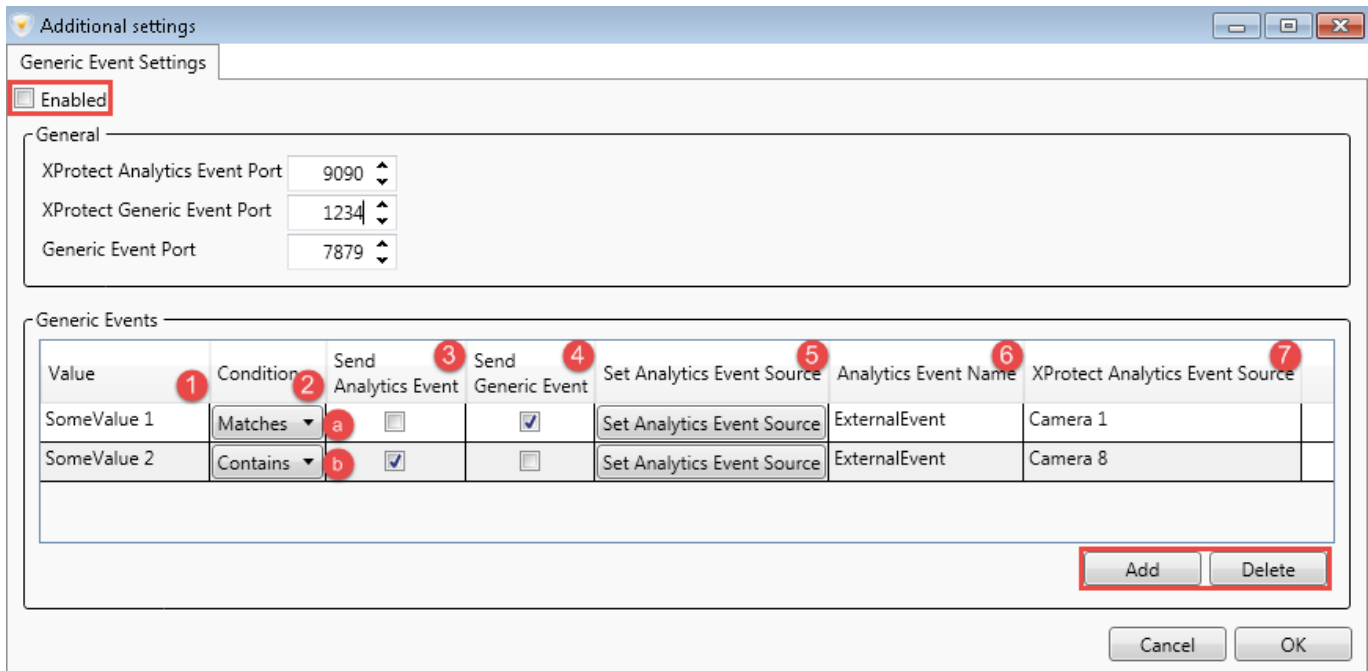

Figure 16: Receiving generic events within Analytic Server module
Select **Enabled** checkbox to activate this feature (Fig. 16).
3. **Send Analytics Event** — checkbox enables events to be redirected to **XProtect** system if they meet the condition. The event to be redirected is specified in **Analytics Event Name** field (Fig. 16, 6). After the **Set Analytics Event Source** button (Fig.16, 5) is used to select it, the name of the device sending the event is to be specified in **XProtect Analytics Event Source** field (Fig. 16, 7).